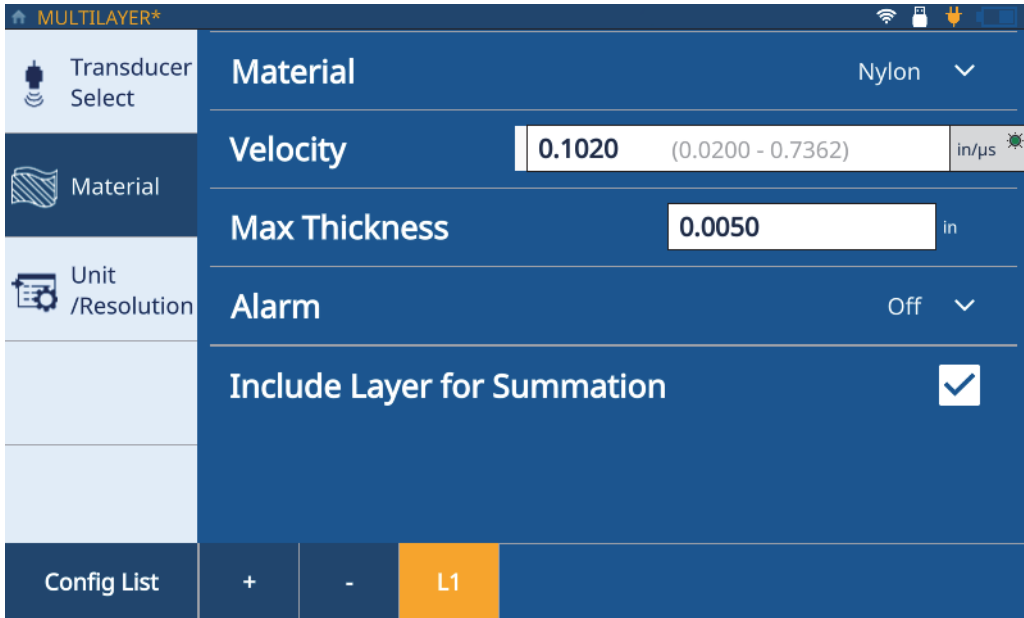

Figure 2-5 Multilayer Material Tab
8. Click the **Material** tab (See Figure 2-5 on page 18 where L1 represents the first layer), and then select your material from the drop-down list. The gauge automatically updates the velocity based on the material.